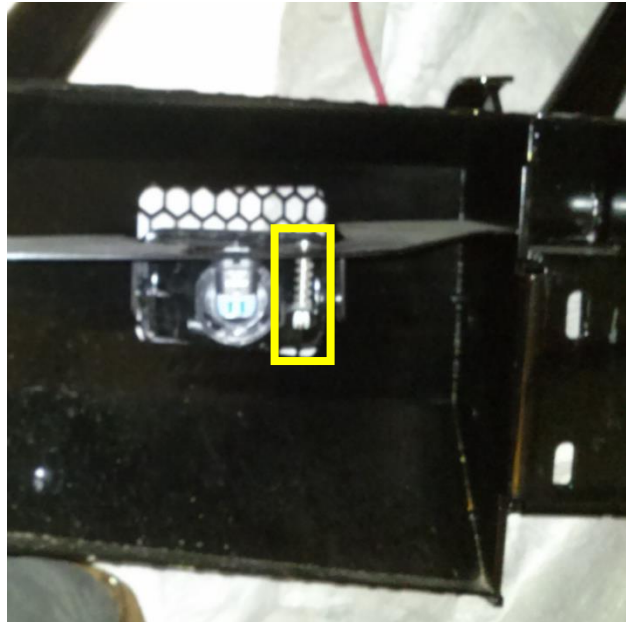

Figure 7
bumper.) Mount fog lights by popping side protrusions into holes on flanges and inserting screw with spring through the top holes (Ref figure 7).
- C. Screw indicated by the yellow square will adjust fog light up and down to help center. (Ref. Figure 7).